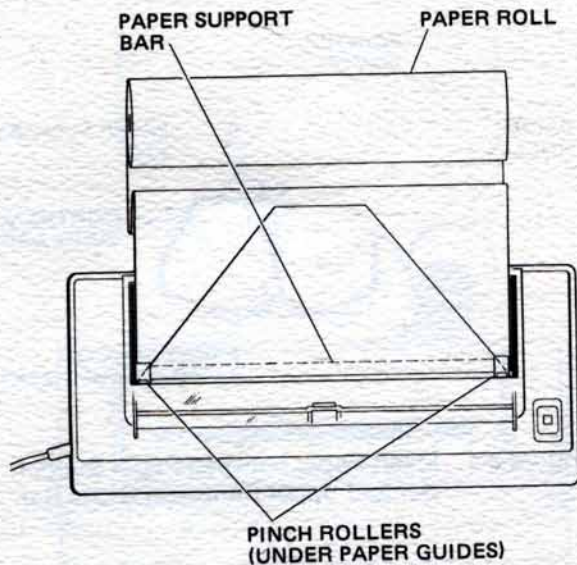

Figure 2-5 Center Paper in Paper Compartment
4. Pull lightly on the end of the paper until the uncut edges stop against the pinch rollers. With the printer cover open, verify that the sides of the paper are straight and evenly centered between the sides of the paper compartment, as shown in Figure 2-5.